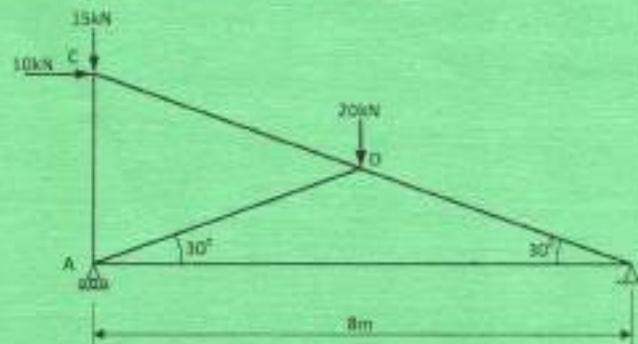

Fig. 3
- (b) Using the method of joint resolution, determine the magnitude and nature of forces for all the members of the frame shown in figure 3. (13 $\frac{1}{2}$ marks)